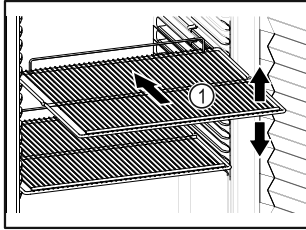

Fig. 58
- If there are adjustable shelves Fig. 58 (1), position them as required.